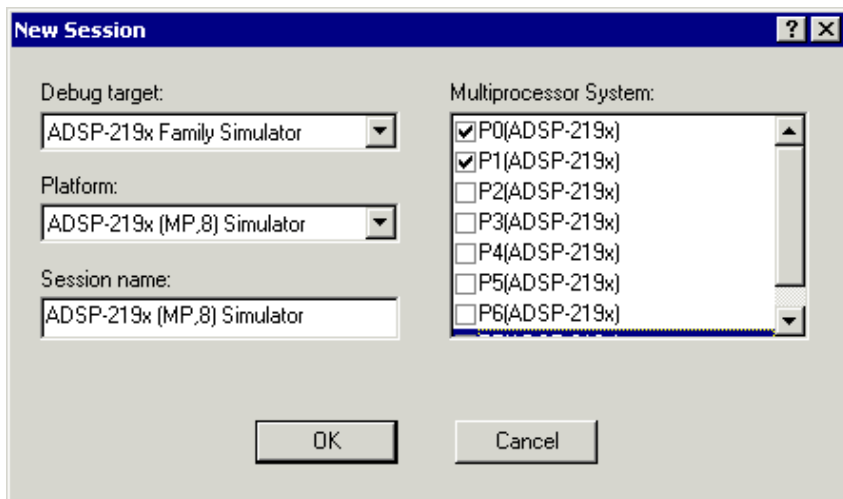

Figure 3-35. New Session Dialog Box: Setting up a Multiprocessor Simulator Session
2. From the Session menu, choose New Session to open the New Session dialog box, shown in Figure 3-35.
4. Under **Multiprocessor System**, select the check boxes next to processors P0 and P1, as shown in Figure 3-35.